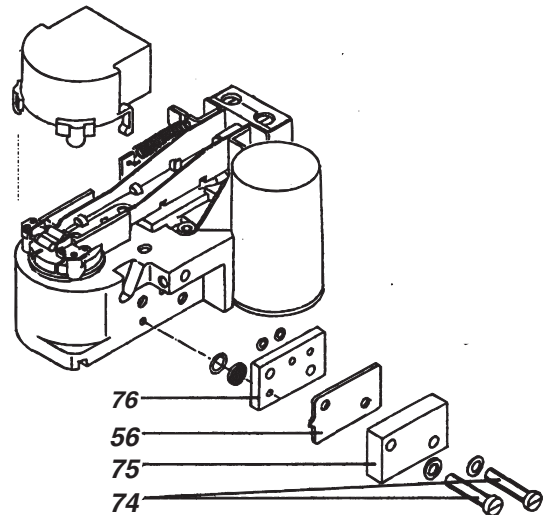

Fig. 29: Removal of the Venturi
- The test gauge must read 0.18 to 0.19 bar at current signal 0 mA. Otherwise set the adjustment lever **73** so that this value is indicated. If this is not possible, remove the Venturi **56** (see Fig. 29) and clean it.
5.3.3 Clean the Venturi (see Fig. 29)